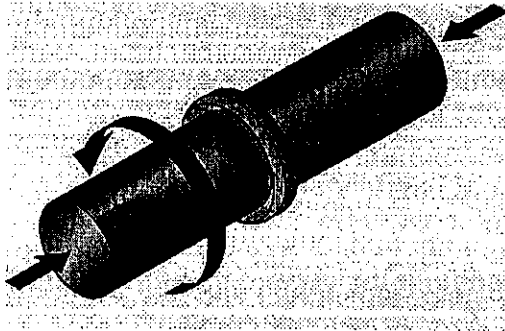

Figure 1
- (a) What is the name of the welding process shown in Figure 1? Is this a fusion welding or solid-state welding process? Is shielding gas usually used in the welding process? Give your reasons.